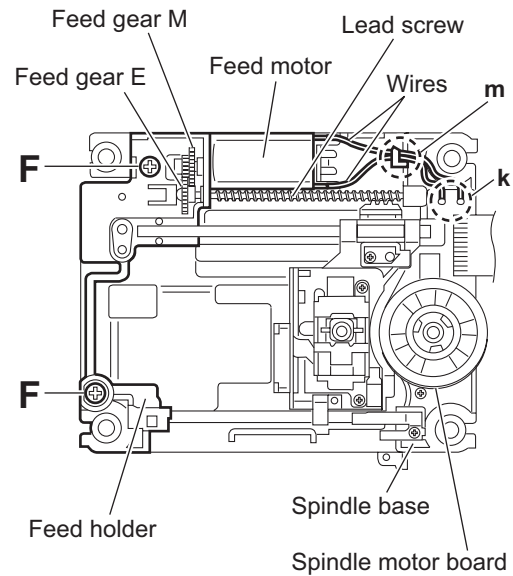

Fig.11
- (3) Remove the wires from the soldered section **k** on the spindle motor board. (See Fig.11.)
When attaching the feed motor, pass the wire through the section **m** on the spindle base. (See Fig.11.)
- (4) Remove the feed holder, feed motor, lead screw, feed gear E and feed gear M at the same time after removing the two screws **F** attaching the feed holder. (See Fig.11.)
### 3.3.7 Removing the spindle motor board (See Figs.11 and 13)
- (1) From the top side of the traverse mechanism assembly, remove the wires from the soldered section **k** on the spindle motor board. (See Fig.11.)